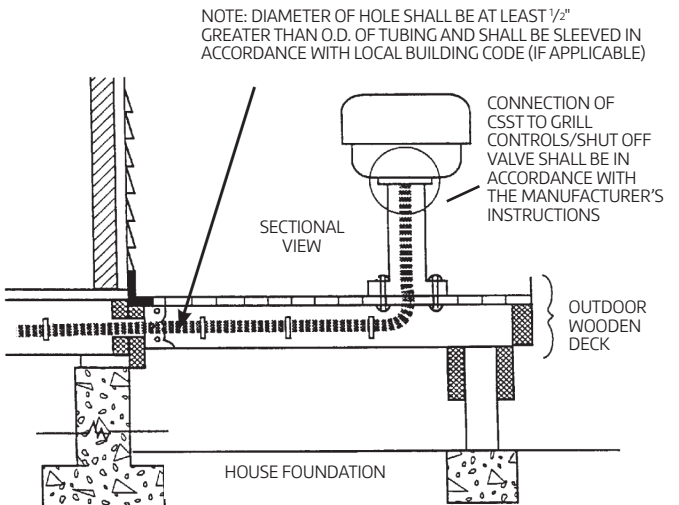
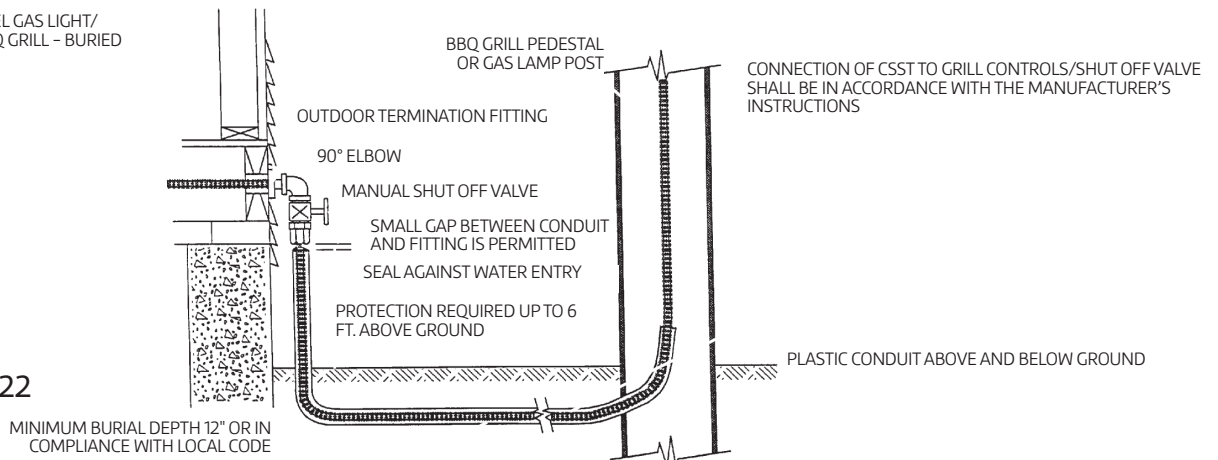

Figure 4.21
Figure 4.22
- B. Permanently mounted grills located on decks shall be connected to the CSST system as shown in Figure 4.21 and in accordance with the manufacturer’s instructions. The outdoor portion of the CSST system shall be supported against the side of any inside deck joist.
- C. Permanently mounted outdoor lights located on decks shall be connected to the CSST system in the manner as permanently mounted grills as shown in Figure 4.21 and in accordance with manufacturer’s instructions. Yard mounted lights shall be connected to the CSST system as shown in Figure 4.22. All WARDFlex® installed below grade shall be routed through nonmetallic watertight conduit and fittings protected in accordance with the requirements of section 4.3.6 Outdoor Installation.